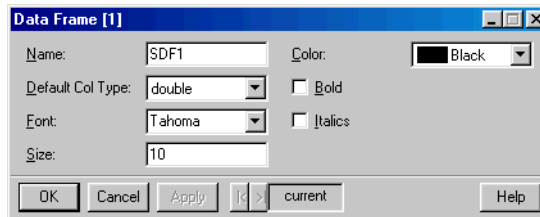

Figure 2.4: *The **Data Frame** dialog.*
1. Double-click the top shaded cell in the upper left-hand corner of the **Data** window. The **Data Frame** dialog opens, as shown in Figure 2.4.